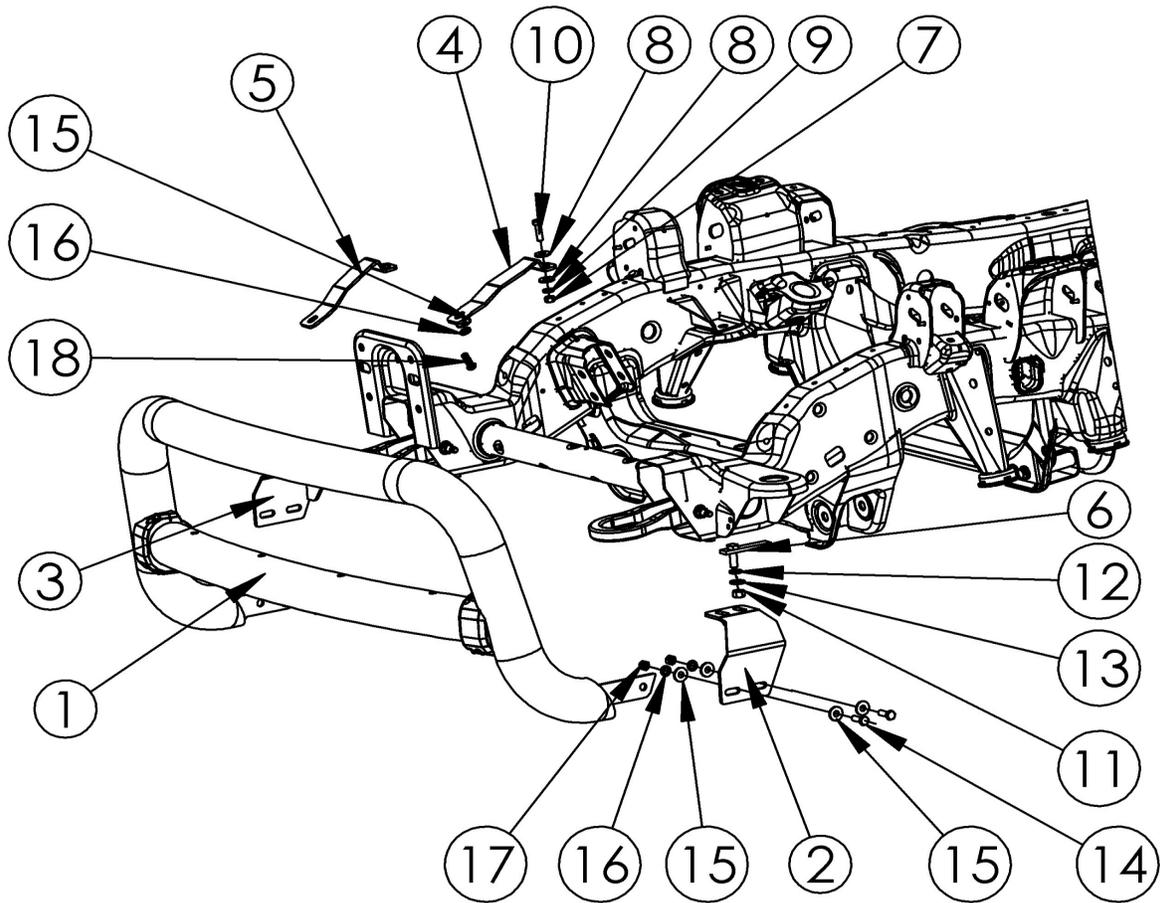

Fig. 8
4. Insert the bolt plate through the tow hook pocket. **NOTE:** The bolt shank should exit through the furthest hole away from the tow hook, not through the hole of the factory M12 bolt. Position the driver lower mount bracket up against the frame, making sure to align the holes of the bracket with those of the frame. Refer to **Figure 3**. Loosely attach the lower bracket to the frame and bolt plate using the factory M12 bolt, (1) 1/2-13 hex nut, (1) 1/2 split lock washer, and (1) 1/2 SAE flat washer. Refer to **Figure 8** for a picture showing the mounting hardware used.
10. With assistance, hold the bull bar up in position on the outside of the lower mounting brackets. Loosely install the bull bar to the brackets with (4) M10-1.50X30 hex head cap screws, (8) M10 flat washers, (4) M10 split lock washers, and (4) M10-1.50 hex nuts. See **Figure 8** for a picture showing the mounting hardware.
11. Loosely install the upper support straps to the bull bar using (2) M10-1.50x30mm hex socket button cap screw, (2) M10 split lock washers, and (2) M10 flat washers (**FIG 8**).